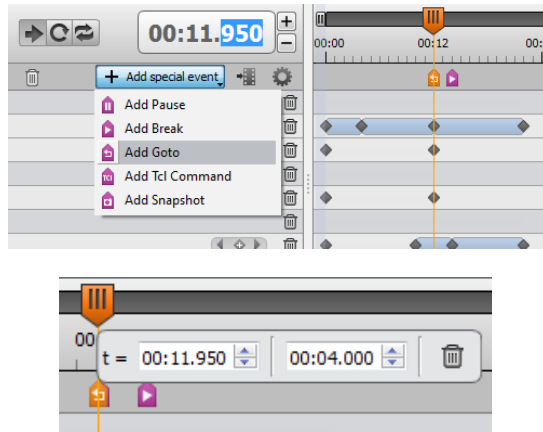

Figure 9.18: Goto, Jump to User-Specified Time
5. In the **Time To Jump To** field enter the time where you want to go from here, for example, 00:04:000 as shown in Figure 9.18.